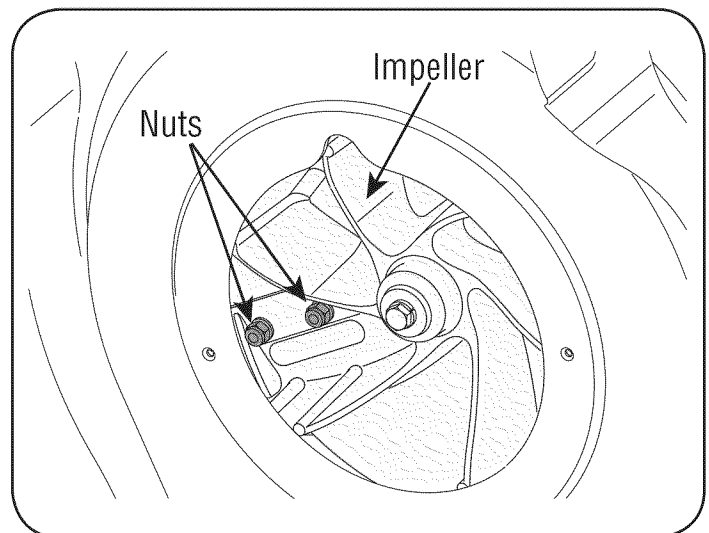

Figure 29
10. The nuts on the flat head cap screws can be reached from underneath using a 1/2-inch socket, universal, and extension. See Figure 29.